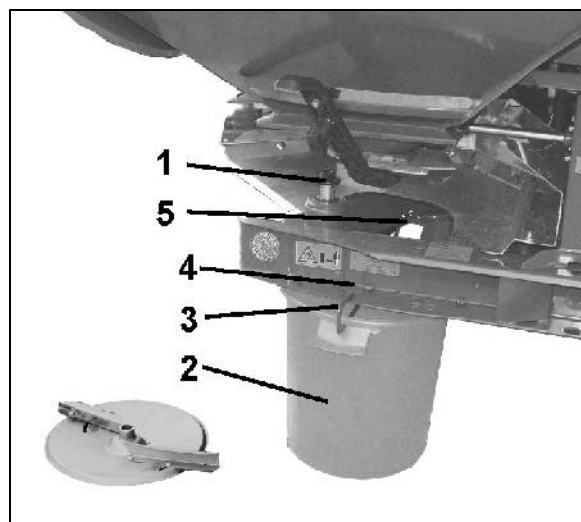

Fig. 49
- 3.1 Unscrew the thumb nut (Fig. 49/1) for fixing the left hand spreading disc and pull the spreading disc off the gear box shaft.
4. Hang the calibration bucket (Fig. 49/2) with its handle (Fig. 49/3) into the rear retainer and the front retainer (Fig. 49/4 und Fig. 49/5) on the frame